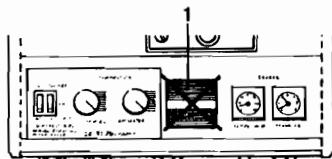

Fig. 1
In this mode the timed/summer/constant switch must be in the closed ie. constant position fig. 1.
Remove the clock aperture blanking plate (1) (fig 1) by squeezing the two lugs on the rear of the plate together and push the plate out.